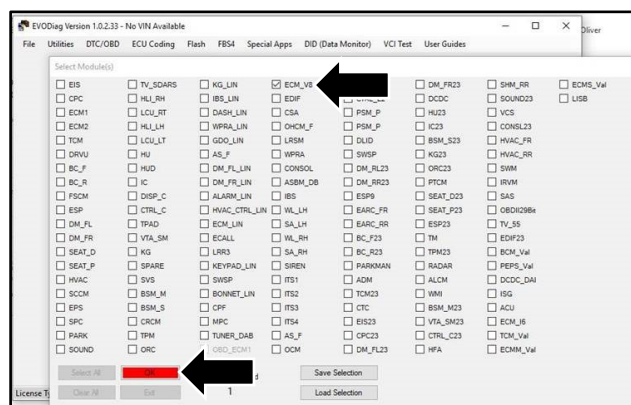

Figure 2
7. Select “ECM\_V8” then “OK” (refer to Figure 2).